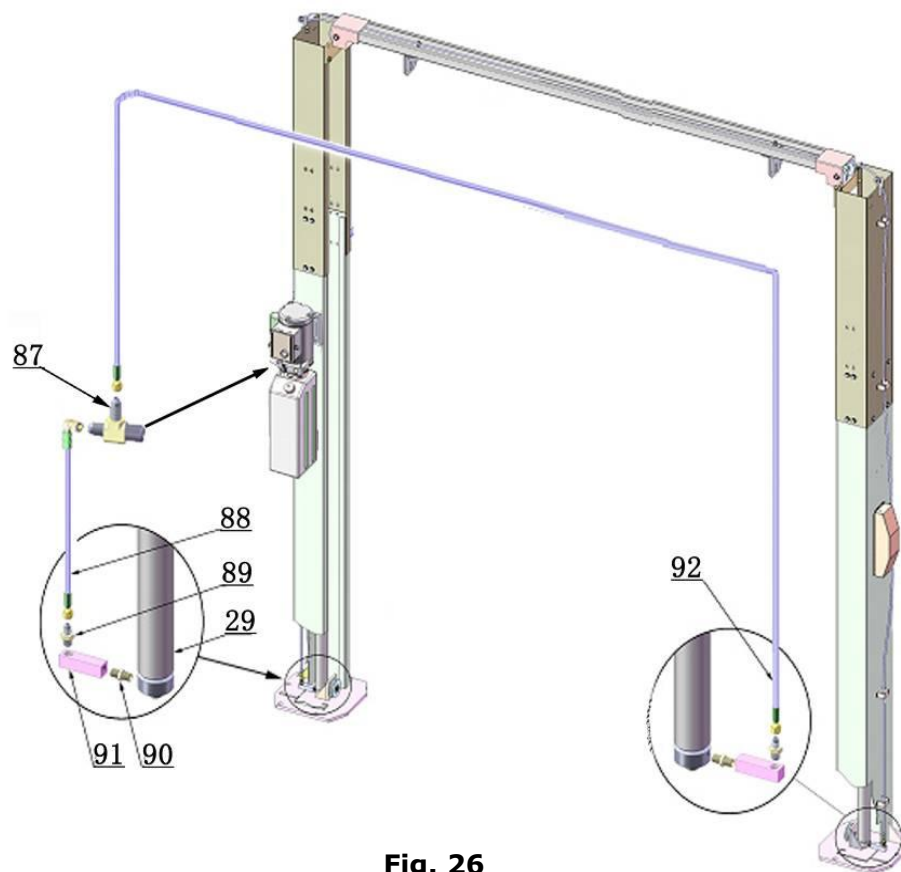

Fig. 26
L. Install Hydraulic Power Unit and Oil Hose Assembly (See Fig. 26).